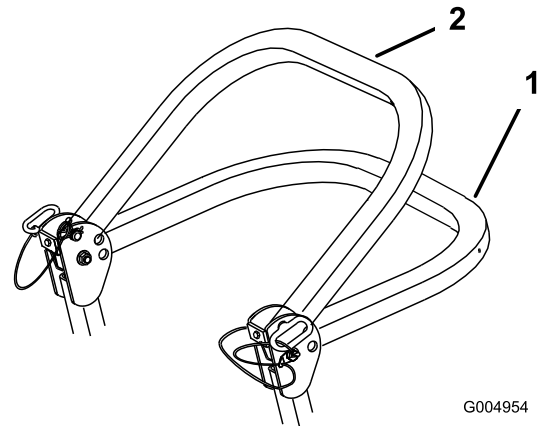

Figure 8
2. Lower the the roll bar to the down position. There are two down positions. See Figure 8 for the positions.